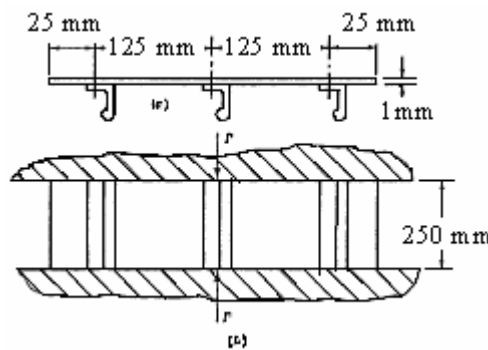

Figure 5:
5. The stringers panel shown in figure 5 is loaded in compression by means of rigid members. The sheet is assumed to be simply supported at the loaded ends and at the rivet lines and to be free at the sides. Each stringer has an area of 64.5mm^2 . Find the total compressive load 'P' for the following conditions.